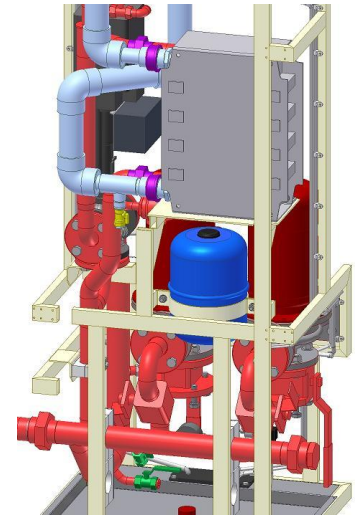

Figure 4.2-2
1. Drain both the primary circuit and the secondary circuit. The secondary circuit is drained through the V220 valve (marked yellow in Figure 4.2-2). The primary circuit is drained through the valves V210 and V212 (marked green in Figure 4.2-2).
2. Disconnect the primary and secondary circuit connections (marked violet in Figure 4.2-2) from the unit. AISI pipe connections can be opened with a box wrench. PVC-C pipe connections can be opened by hand, or if needed use oil filter remover (used to remove the oil filter from cars). Be careful not to damage the connections.